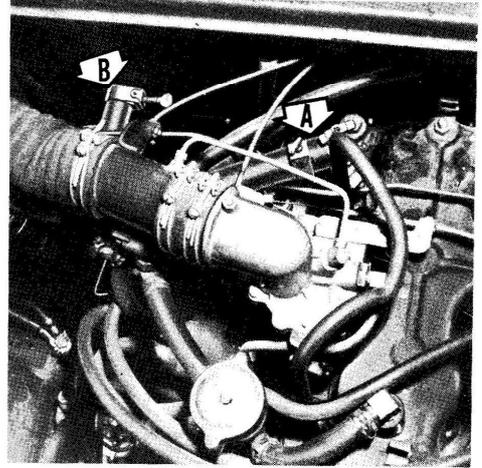

Fig. 15. (A) Coolant hose connected to shutoff cock. (B) Coolant hose connected to battery pad inlet.
- f. Connect the other end of the 18" coolant hose to the battery pad inlet, Fig. 15.